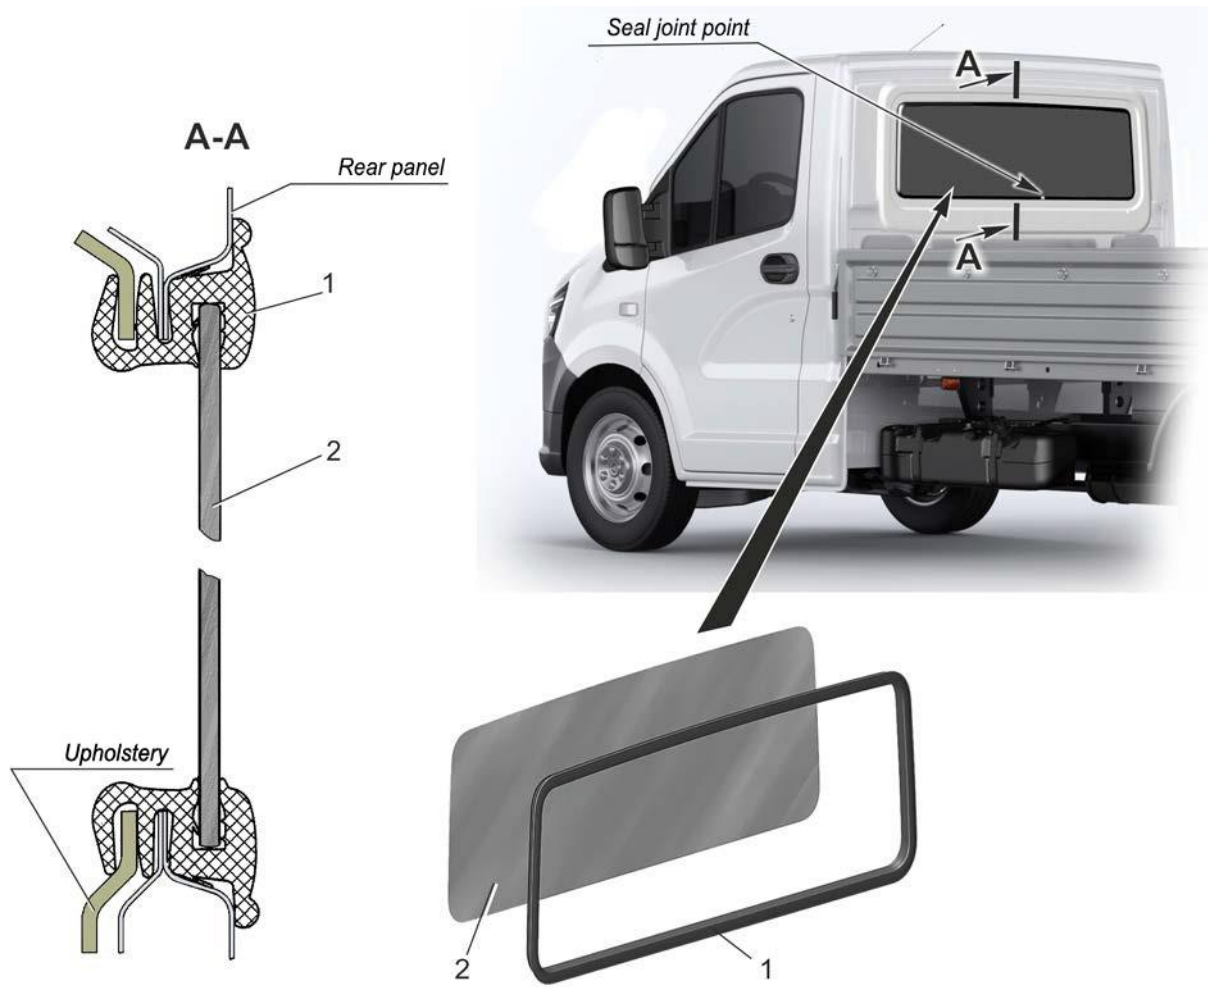

Fig. 8.9. Rear window glass installation: 1 – seal; 2 – glass
- press with a screwdriver and disengage the outer tab of the rear window seal (Fig. 8.9), which closes the window opening in the liner and remove the upper rear liner;
- put the seal on the new glass. The seal joint should be at the bottom of the window as shown in Figure 8.9;